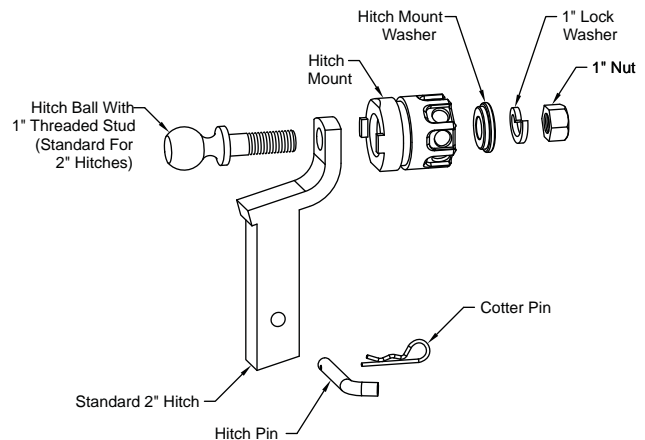
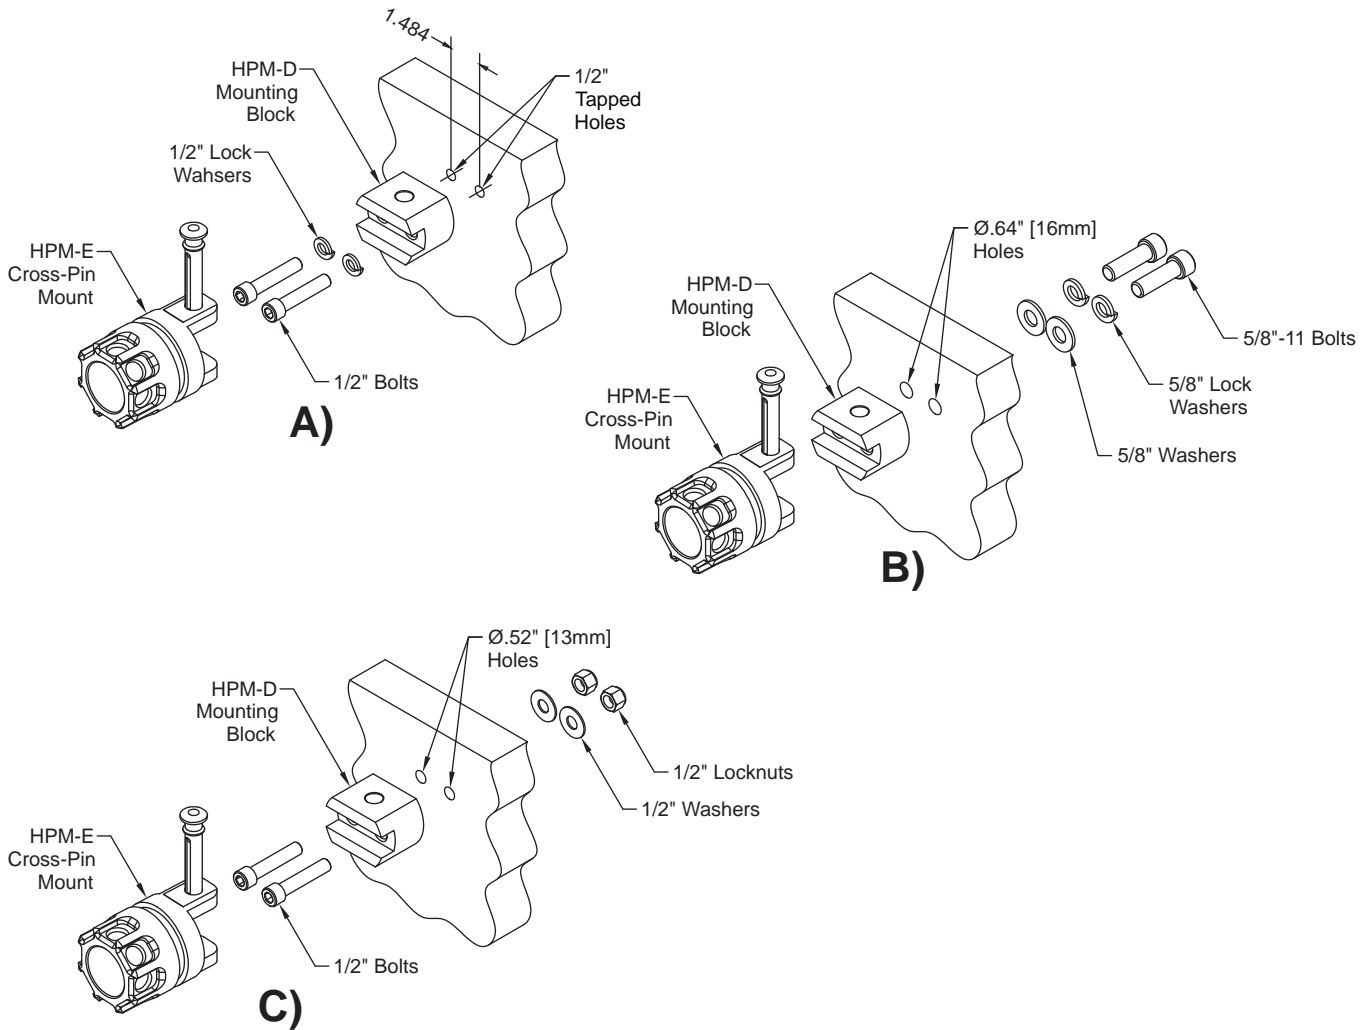

Figure 2.11 Hitch Mount Installation
Figure 2.13 Mounting block installation options
A mounting block can be used as a fixed mount, for flowing, or as a storage bracket for the Hemisphere monitor. This mount can be used in locations where the back side of the mounting surface is inaccessible. It can be bolted from the front of a sufficiently rigid surface by adding two 1/2" [13mm] tapped holes (See figure 2.13 a.) It can also be bolted from the back side of a surface, by drilling two (2) .64" [16mm] clearance holes (See figure 2.13 b.) and screwing two (2) 5/8"-11 bolts into the tapped holes on the bracket. A third option would be to drill two (2) .52" holes, and bolting the mounting block from the front side with 1/2" bolts, washers, and locknuts (See figure 2.11 c.)
A cross-pin mount can be added to a mounting block to create a monitor-ready attachment location (See Figure 2.13.) It is the same cross-pin mount that is included with the I-beam clamp/2" hitch mount, with the same detented cross-pin, and can be ordered as a spare or replacement.